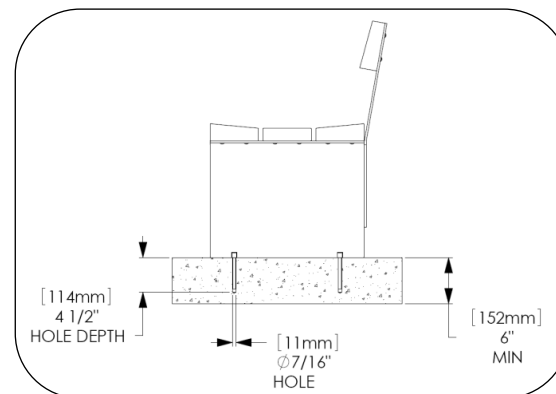
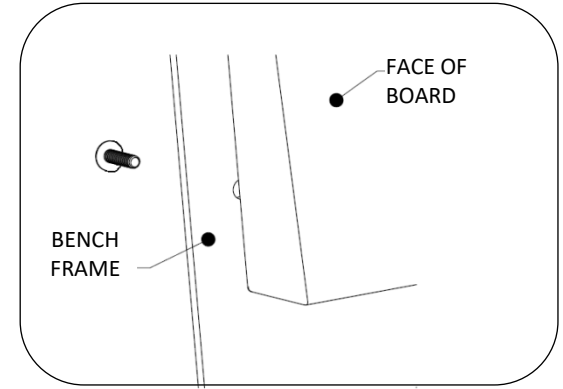

Fig. 1 – Drilled hole size, board orientation
Fig. 3 – Board attachment hardware
4. Fasten seat boards and back board (if specified) as shown in Fig. 1, using board attachment hardware as shown in Fig. 3. Leave screws slightly loose until entire bench has been assembled.